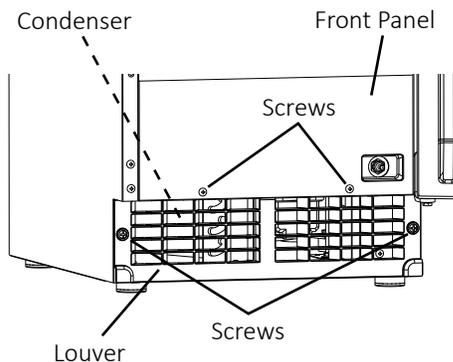

Fig. 40
2. Remove the screws securing the front panel, then remove it (See Fig. 40).